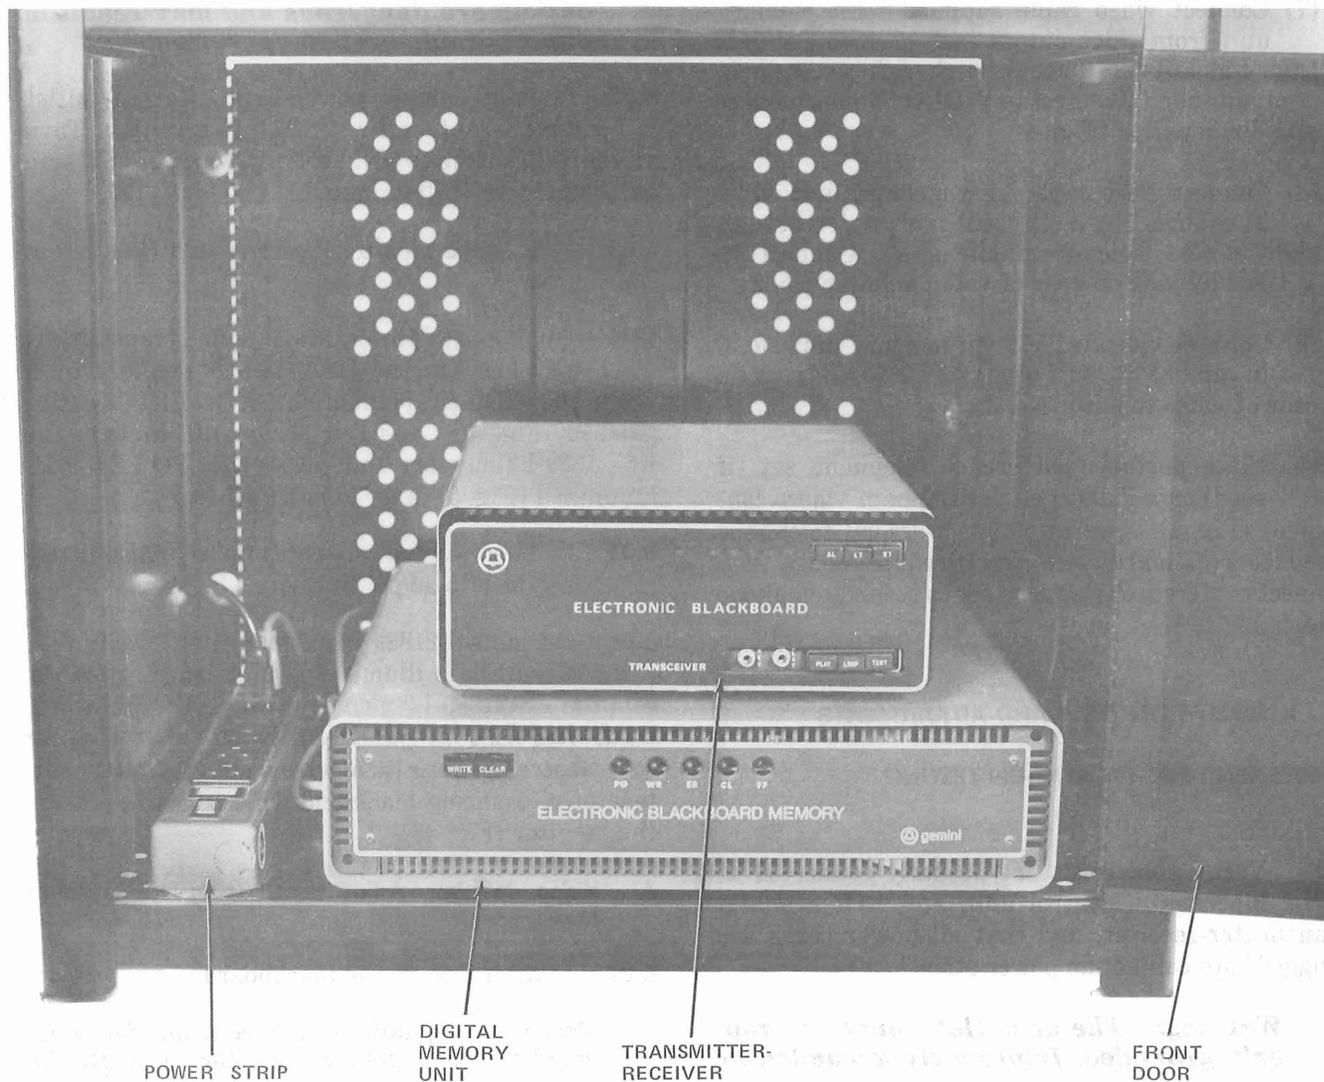

Fig. 42—Bottom Front View of Cabinet With KS-21889-L3 Memory Unit
5.49 Place KS-21889-L3 memory unit on the bottom shelf of the cabinet (Fig. 42).